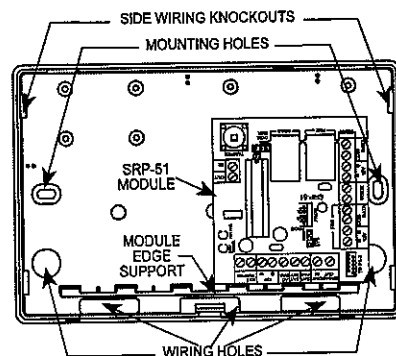

Figure 5-2. Plastic Cabinet Base with SRP-51 Module installed
- C. Swing the free edge of the cover diagonally up and move it slightly backwards to disengage the tabs at the back. The SRP-51 module does not prevent access to the mounting holes, as evident from Figure 5-2.